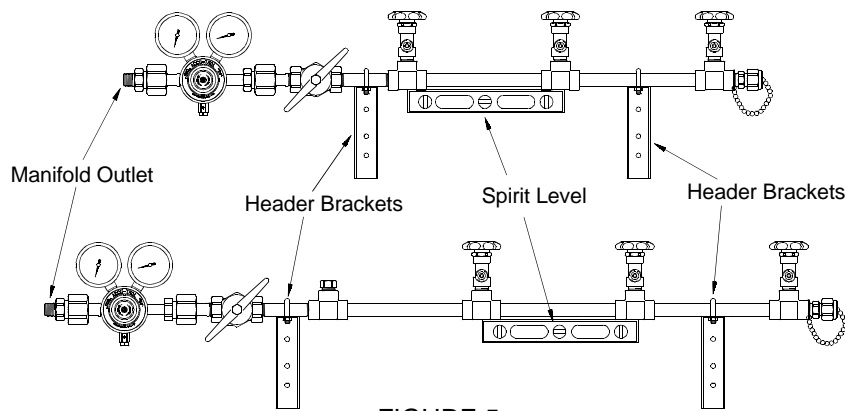

FIGURE 5
7. Mount the manifold by placing the header on the bracket. Fit the U-bolt over the header pipe and tighten the mounting nuts. (Figure 5)
8. Using a level, mark the placement of any additional mounting brackets while keeping the header on a horizontal plane. (Figure 5)